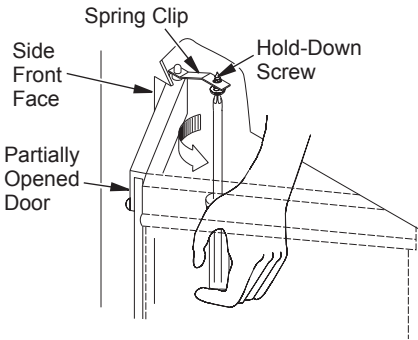

Figure 31 - Adjusting Glass Doors
7. To adjust doors, slide them partially open. Using a screwdriver, loosen the hold-down screws in spring clip (see Figure 31) and pivot plate.